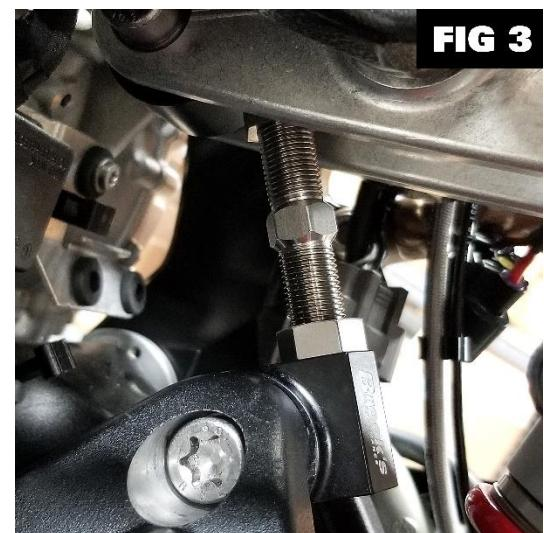

FIG 3
15. Install the Fully Adjustable Window Link oriented as shown. **(FIG 3)**
19. Lengthen center-to-center of link to raise bike. **(FIG 3)**